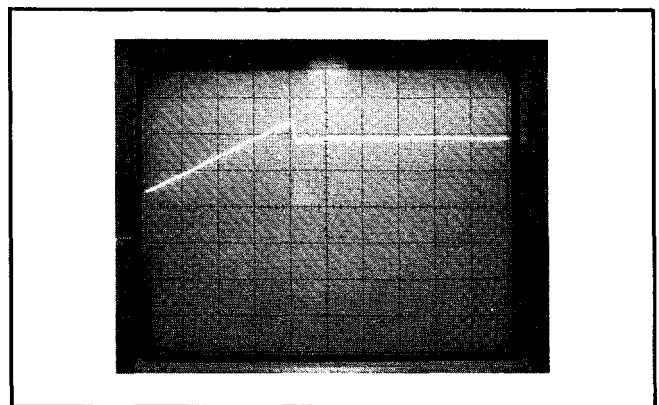

Figure 5-30. Narrow-Band Sweep, Unleveled Power
- n. Observe the network analyzer display and ensure that the trace does not go unleveled (Figure 5-30) at any frequency between 2 and 8 GHz.